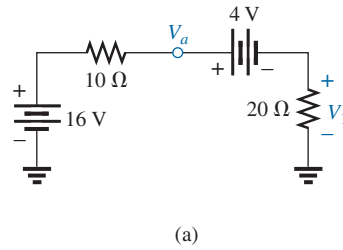

FIG. 5.120
37. Determine the voltages  $V_a$  and  $V_1$  for the networks in Fig. 5.120.